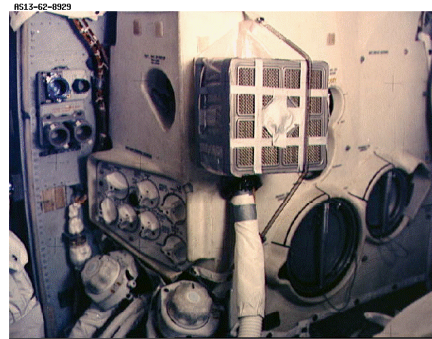

Figure 1
**#9) Secure the bag with strips of duct tape** two per side running from one side, under the bottom and back up the other side. Repeat on the other side. The bottom of the cube will resemble a tic tac toe board when this step is completed. (See Figure 1 to the right)
- #14) Attach the end of the bungee cord to the hook above the lithium canister** mounting location on the bulkhead. (See Figure 1 in step #9 above)
- #15) Secure the canister to the bulkhead** by hooking the other end of the bungee cord below the mounting location. (See figure 1 in step #9 above)